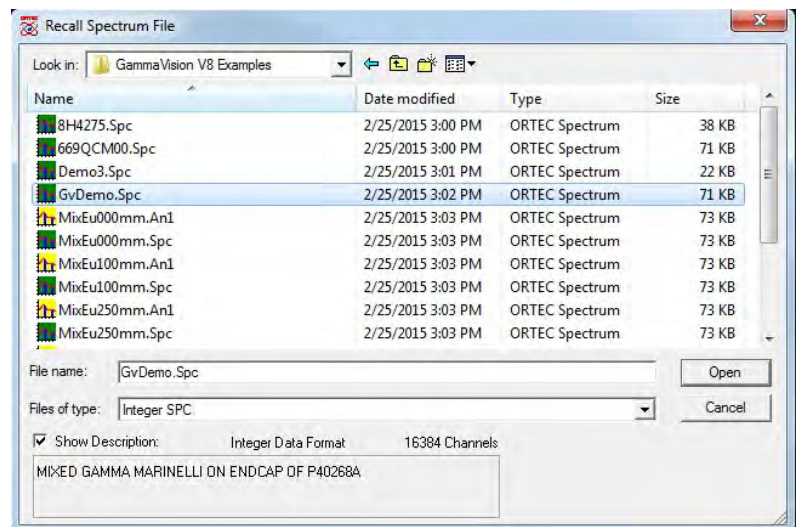

Figure 11. Recalling a Spectrum File.
If a Detector or buffer window is already open, click its Close box (X). Next, recall **GVDEMO.SPC** from the the menu bar by clicking on **File**, then **Recall...**. This will open a dialog showing the list of spectrum files in the **C:\User** folder. If you did not copy the example files into this folder, look in the **\V9 Examples** folder, as shown in Fig. 11. From the list of files, double-click **GVDEMO.SPC**, or click once on the file name and then **Open**.